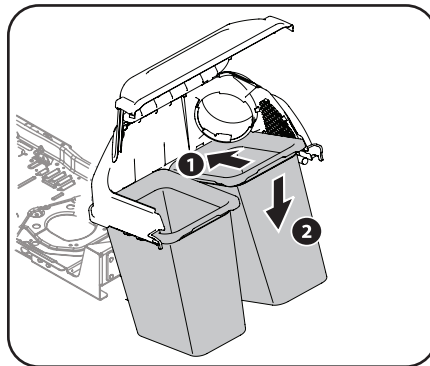

Figure 4-11
7. Install both grass bag assemblies (964-05104) onto the bag support brackets by inserting the front edge in first, as shown in Figure 4-11, and setting the back edge down until it fits into the assembly.